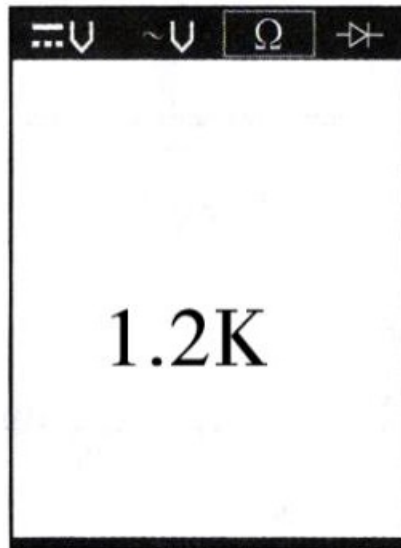

Figure 4
- **Resistance** While the tool in this mode, contacts the probe tip to a circuit, then the LCD display will read the resistance between the tip and auxiliary ground lead. (Figure 4)